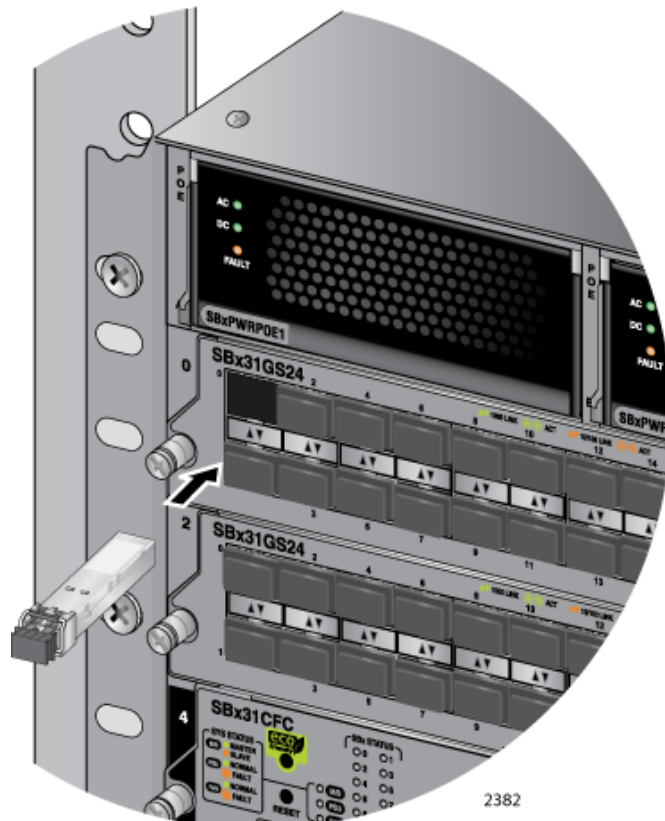

Figure 87. Inserting the SFP Transceiver in the AT-SBx31GS24 Line Card
- Slide the transceiver into the slot until it clicks into place, as shown in Figure 87.